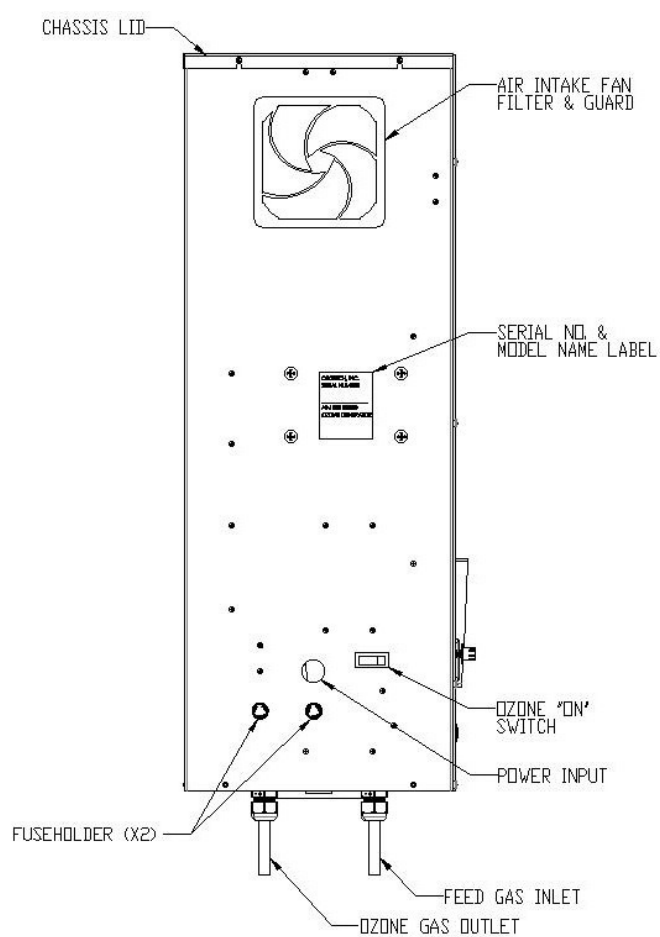

Figure 6. Left Side Exterior View
There are two (2) fuses connected to the live source conductor and accessible from the outside of the chassis. Refer to section 7.0, figure 6 for the locations of the fuse holders. In 115 VAC applications, only the forward fuse is used. In 230 VAC applications, both fuses are used.